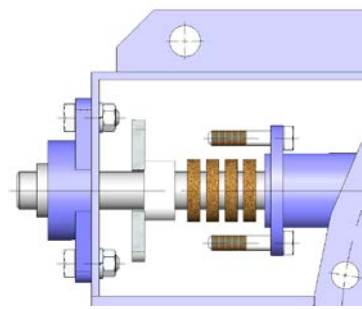

fig. 13
5. Remove the old packing (6) using a pointed tool, taking care not to damage the surface of the shaft (fig. 13).